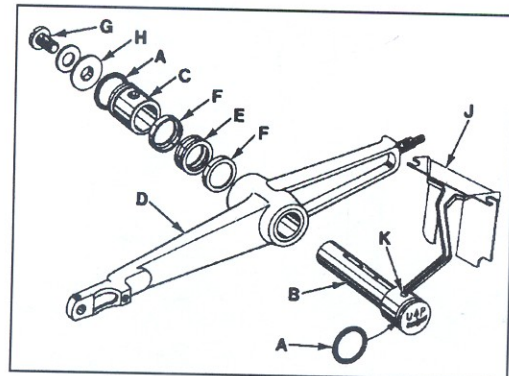

Fig 17
1. Install "O" rings (A, Fig. 17) onto needle lever stud (B) and thrust collar (C).
2. With needle lever (D) in machine and positioned properly; insert stud (B) through hole in needle lever until its shoulder contacts the needle lever and the word "UP" on stud is in the upright position. While making sure no binding exists in the needle bar link, secure stud (B) with the front set screw in top of machine bed.
3. Install temper load ring (E) and compression cups (F) onto stud (B), then push ring and cups through opening in machine bed.